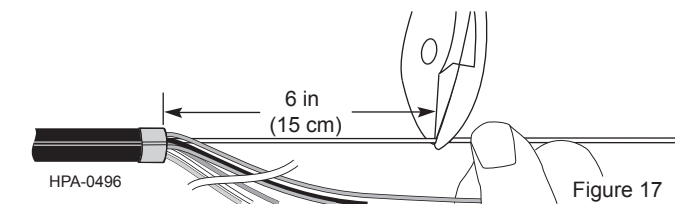

Figure 17
4.13 Use side cutters to cut the dielectric central member to a length of 6 in (15 cm) (Figure 17).